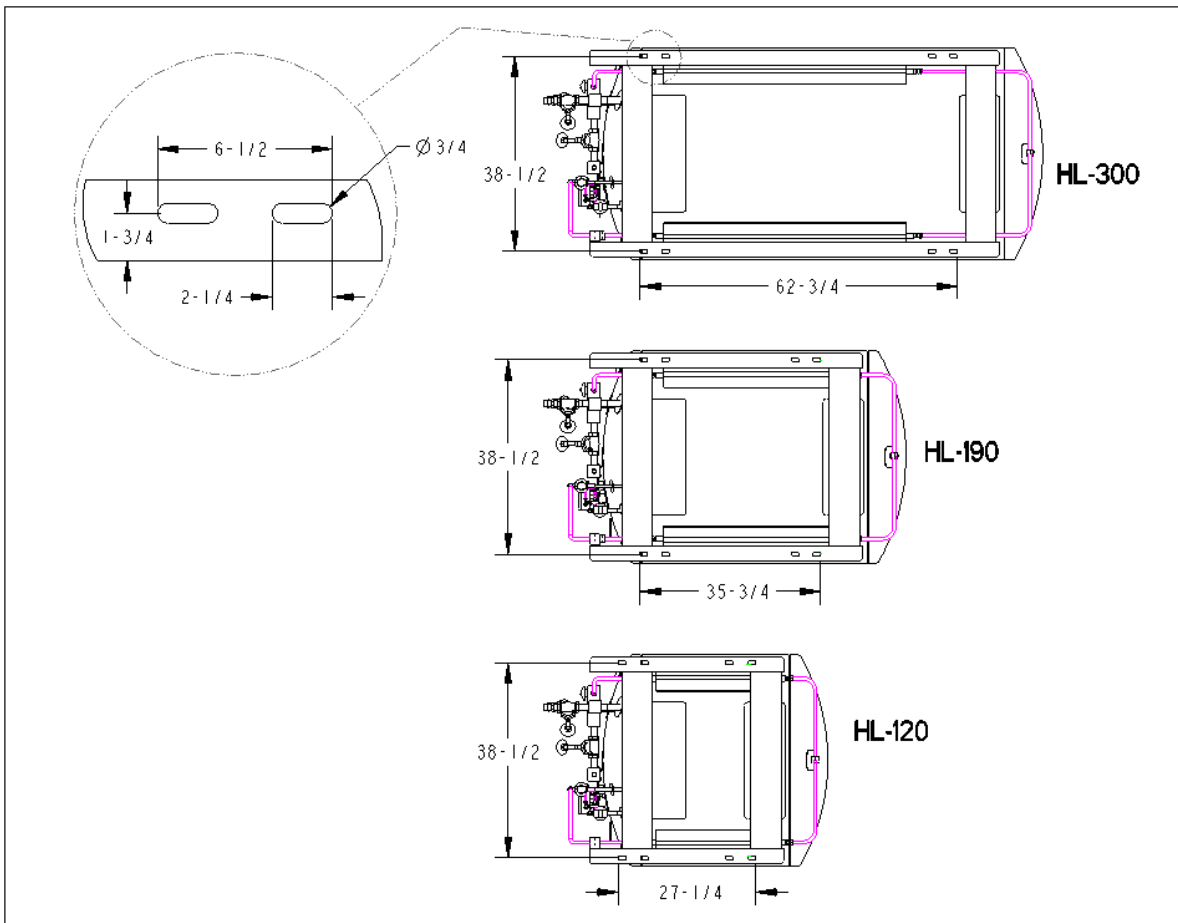

Figure 3.1
3. Drill eight holes through the floor of the vehicle so as to bracket the frame members as shown in Figure 3.1.